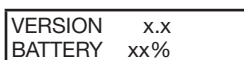
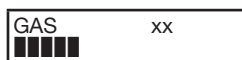

Figure 2. Version and Battery
Figure 3. Sample Display
- Numeric indication and bar graph (Figure 3)
- Estimated battery life in hours and low battery warning (Figure 2)
When the EML100 is turned on, the display will first show the firmware version and then the estimated battery life remaining (Figure 2). After the Power-On Sequence, the unit will default to the mode and settings that were used last. For example, if the unit was last used to locate Gas markers with the Volume set on Low, it will return to the same settings (Figure 3).